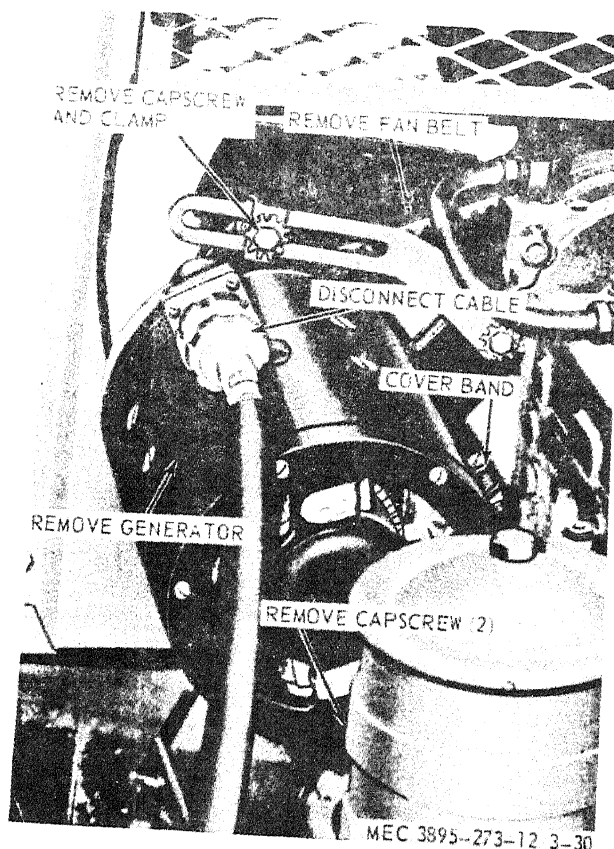

Figure 3-27. Generator, removal and installation.
a. *Removal.* Remove the generator as instructed on figure 3-27.
- (1) Clean all parts with an approved cleaning solvent.
- (2) Inspect the brushes for wear and damage. Brushes that have worn to 1/2 inch or less in length should be replaced. Replace brushes as necessary. Refer to paragraph d.
- (3) Inspect the generator for damage and proper operation. Replace a damaged or defective generator.
- (1) Install the generator and drive belt in reverse of the instructions on figure 3-27.
- (2) Adjust the generator drive fan belt (para 3-13).
- (1) Remove cover band from generator (fig. 3-27).